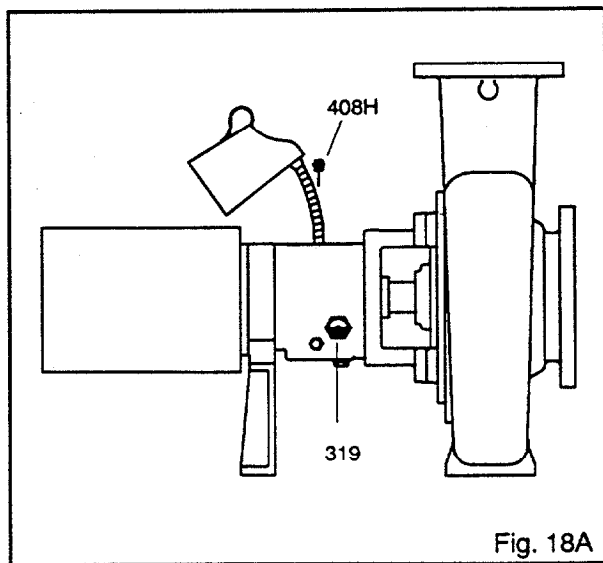

Fig. 18A
Remove fill plug (408H) and add oil until level is at the center of the sight glass (319). Replace fill plug (Fig. 18A). See Table 4.